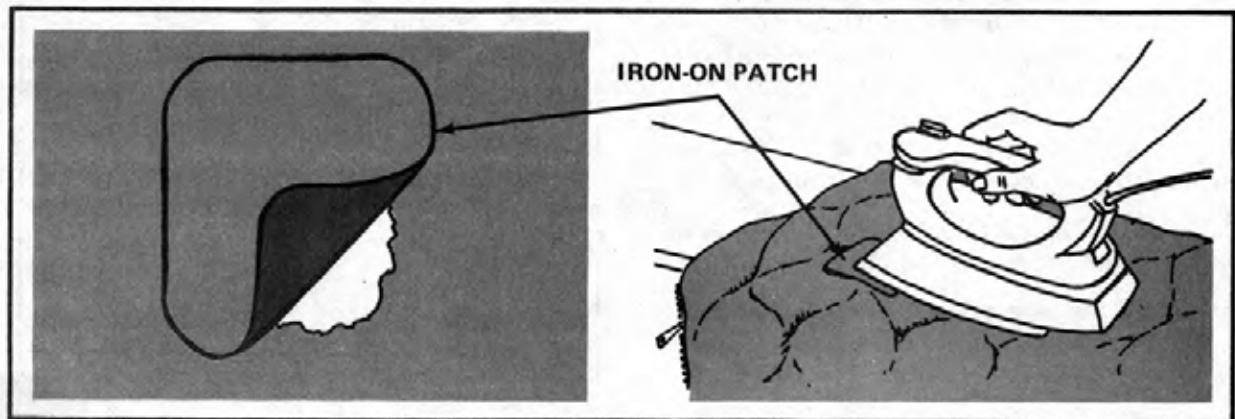

Figure 4-8. Iron-on patch
d. Iron-On Patch. The iron-on patch (Figure 4-8) may be used to repair sleeping bags. It can be used instead of a pinch patch to repair small holes and tears. To apply an iron-on patch--
- (1) Replace any missing insulation.
- (2) Trim unraveled ends, and measure the damaged area.
- (3) Cut a patch from iron-on patching material. Make the patch large enough to extend 1/2 inch beyond the damaged area on all four sides. Round off the corners of the patch.
- (4) Unzip the sleeping bag. Place the damaged area on a flat, hard surface that heat will not affect.
- (5) Shake or move the underlying insulation away from the damaged area.
- (6) Smooth out and warm the damaged area by pressing with a dry iron set on cotton. Do not scorch the fabric.
- (7) Quickly cover the damaged area with the iron-on patch.
- (8) Hold the iron on the patch. Apply constant pressure for 8 seconds, moving the iron back and forth slightly. If the patch is larger than the iron, press the patch section by section, starting in the center.
- (9) Allow the patch to cool for at least 5 seconds before moving the sleeping bag.
- (10) After the patch has cooled for 5 minutes, test the patch by trying to lift one of the corners with a fingernail. If a 1/4- to 1/2-inch section of the corner comes loose, try to peel off the patch. A well-bonded patch will be hard to remove. A poorly bonded patch will peel off easily. Re-press a poorly bonded patch using a hotter iron, but do not scorch the patch or the fabric. Increase the pressing and cooling times. Test and re-press the patch until it is hard to remove. Re-press the tested corner.